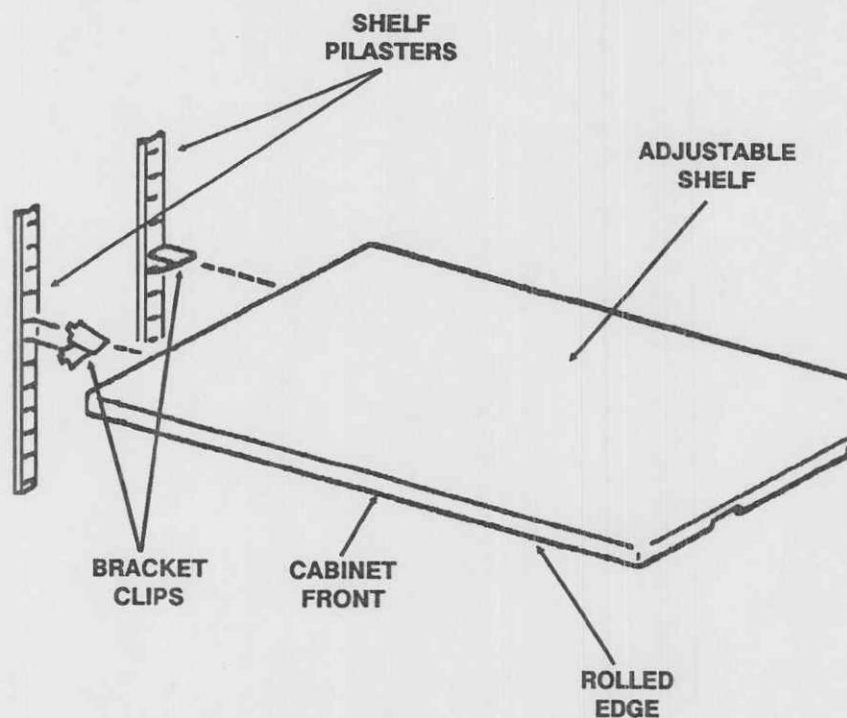

Figure 2-2. Shelf adjustments.
- c. Ensure that the adjustable shelves are correctly located or adjust their height by referring to figure 2-2 and complete the following actions.